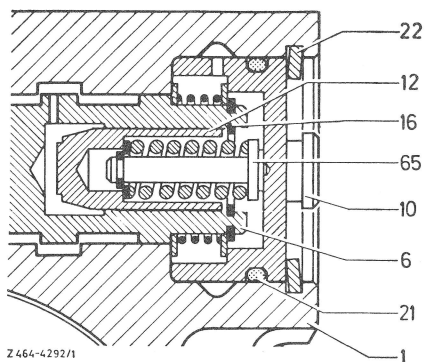
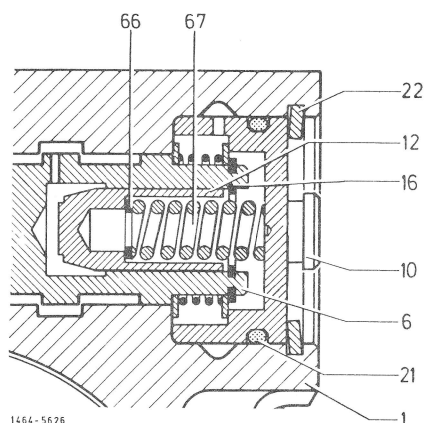

Fig. 23
Fig. 24
23 On version 2, grease spring bolt (65) (Fig. 23), and on version 3, grease spring (67) (Fig. 24) and insert into reaction pistons (12), then insert control valve (6) into steering case (1).